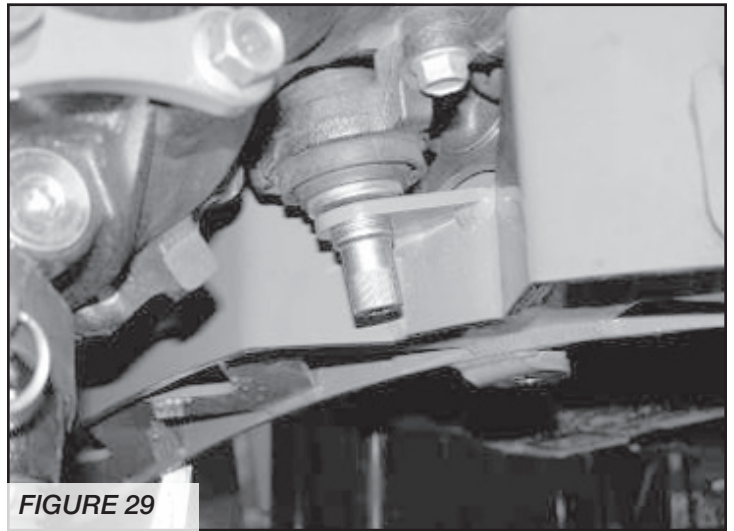

FIGURE 29
21. Locate the Fabtech rear crossmember FT70240 with the supplied  $\frac{9}{16}$ " x 5" bolts, nuts, and washers (BAG 1). Install the crossmember to the factory control arm pockets. Leave loose at this time. Re-install the factory rear differential nut at this time. **SEE FIGURE 29**